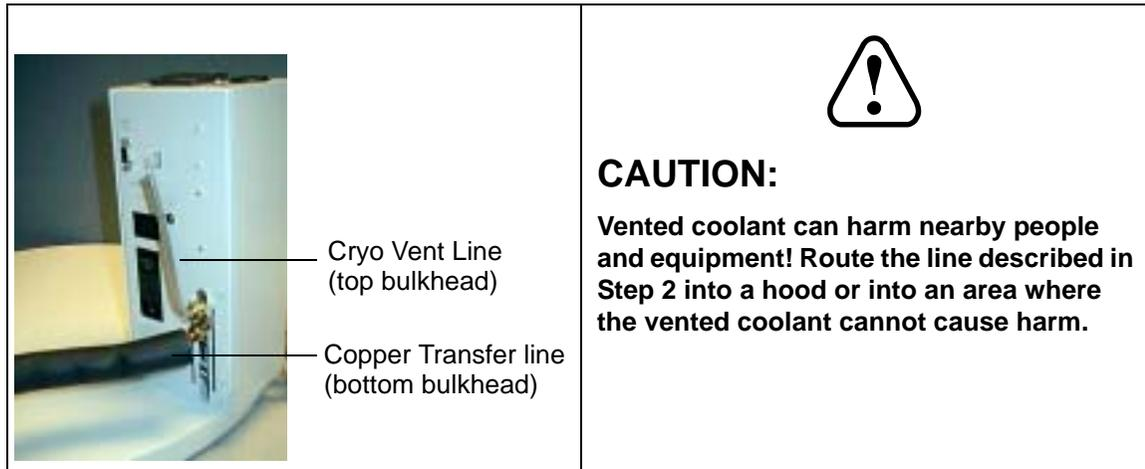

Figure 2-23: Cryo Vent line and Transfer Line Connections
1. Connect the DC Power Supply to the rear of the Cryofocusing Module (Figure 2-23).
2. Connect the A.C. Cable from the Power Entry Module to an outlet (Figure 2-23)
3. Connect the A.C. "Out" Cable from the rear of the Cryofocusing Module to the D.C Power Supply (Figures 2-23 and 2-24)
4. Connect the Cryo Valve Cable to LN₂ on the Cryogenic Valve (Figures 2-23 and 2-24).
5. Connect the 9-Pin Tekmar Aux cable to the rear of the Velocity XPT Tekmar Aux Port (Figures 2-23 and 2-24).